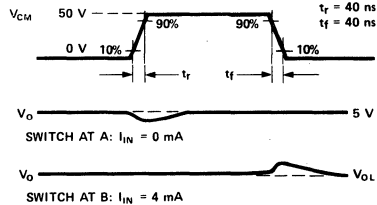

Figure 8. Test Circuit for Common Mode Transient Immunity and Typical Waveforms.
- Common mode transient immunity in Logic Low level is the maximum tolerable $dV_{CM/dt}$ of the common mode voltage, V_{CM} , to ensure that the output will remain in a Logic Low state (i.e., $V_O < 0.8\text{ V}$). See figure 8.